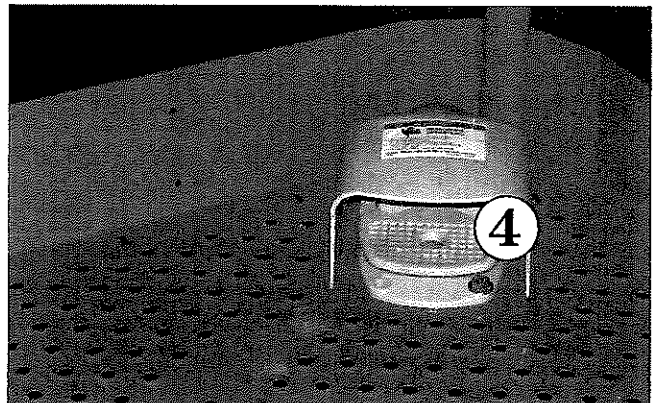

Figure 9.3 - Enable Switch (Foot)
4. Step on the platform foot switch **4** (see Figure 9.3).
Enable **5** or **4** (foot switch - Figure 9.3)